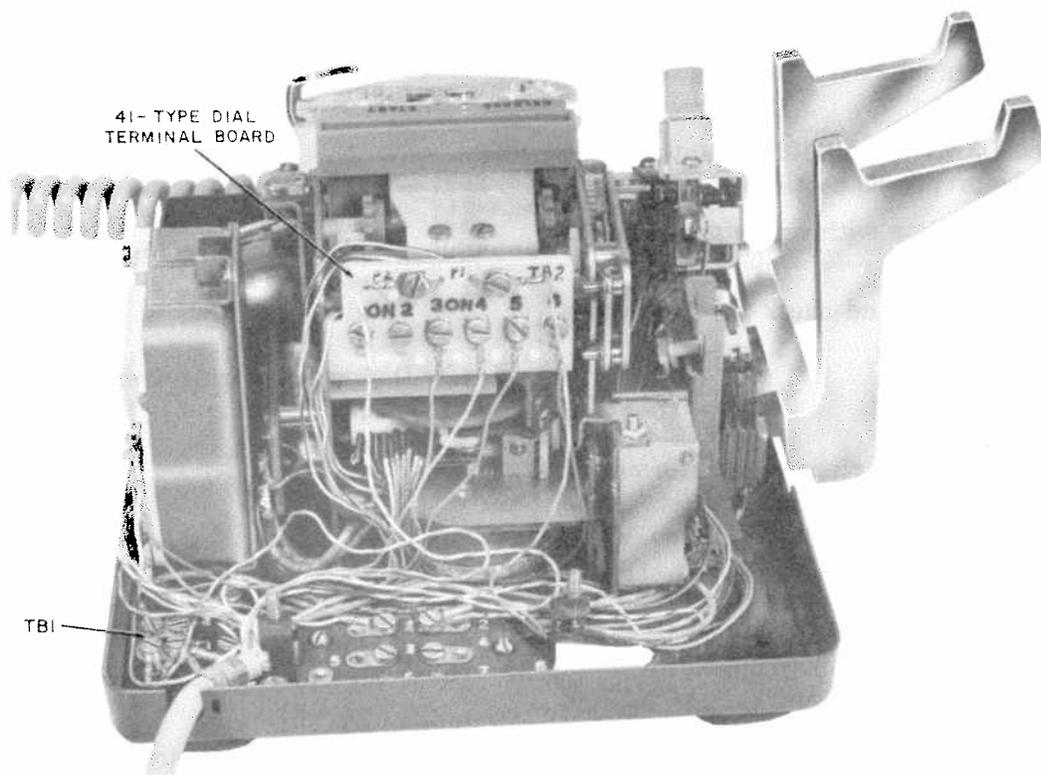

Fig. 6 — 660-Type Telephone Set, Terminal Boards
- (5) Remount 8C dial making sure that wire link enters hole provided in switch hook assembly. Tighten dial mounting screws.
- (6) Mount terminal board to base with screws provided. (See Fig. 6.)
- (7) Replace D6AF cord with D10L cord.
- (8) Replace faceplate with one providing an opening for exclusion button.
- (9) Replace housing and check set for proper operation.
- (1) Temporarily disconnect 18-volt ac power supply to dial.
- (2) Disconnect wiring from terminal strip on rear of dial (Fig. 6).
- (3) Turn set on side and remove three screws holding dial to baseplate. Dial can now be removed.
- (4) Place new dial in position taking care not to pinch any wiring between dial and baseplate.
- (5) Fasten dial to baseplate with three mounting screws.
- (6) Reterminate leads to dial on terminal strip.
- (7) Reconnect power supply.
- (8) Using properly coded card, check operation of the dial.